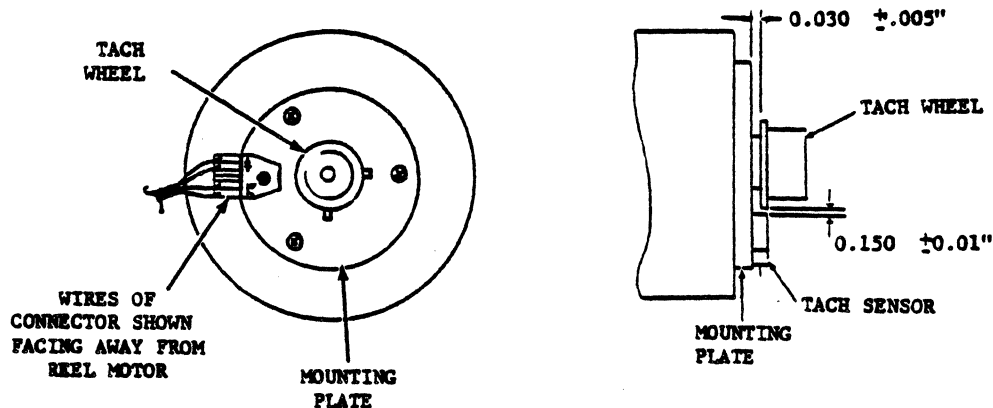

Figure 6-17. Tach/Sensor Assembly/Adjustments
2. Assemble sensor and tach wheel (from steps 6 and 7 of Removal) onto rear of motor mounting plate and shaft as shown in figure 6-17 and adjust per tolerance requirements listed in the Supply Motor Tach and Sensor Procedures.
5. Attach W3P5 connector to tach sensor pins as shown in figure 6-17.
Replacement (Refer to Figure 6-17)